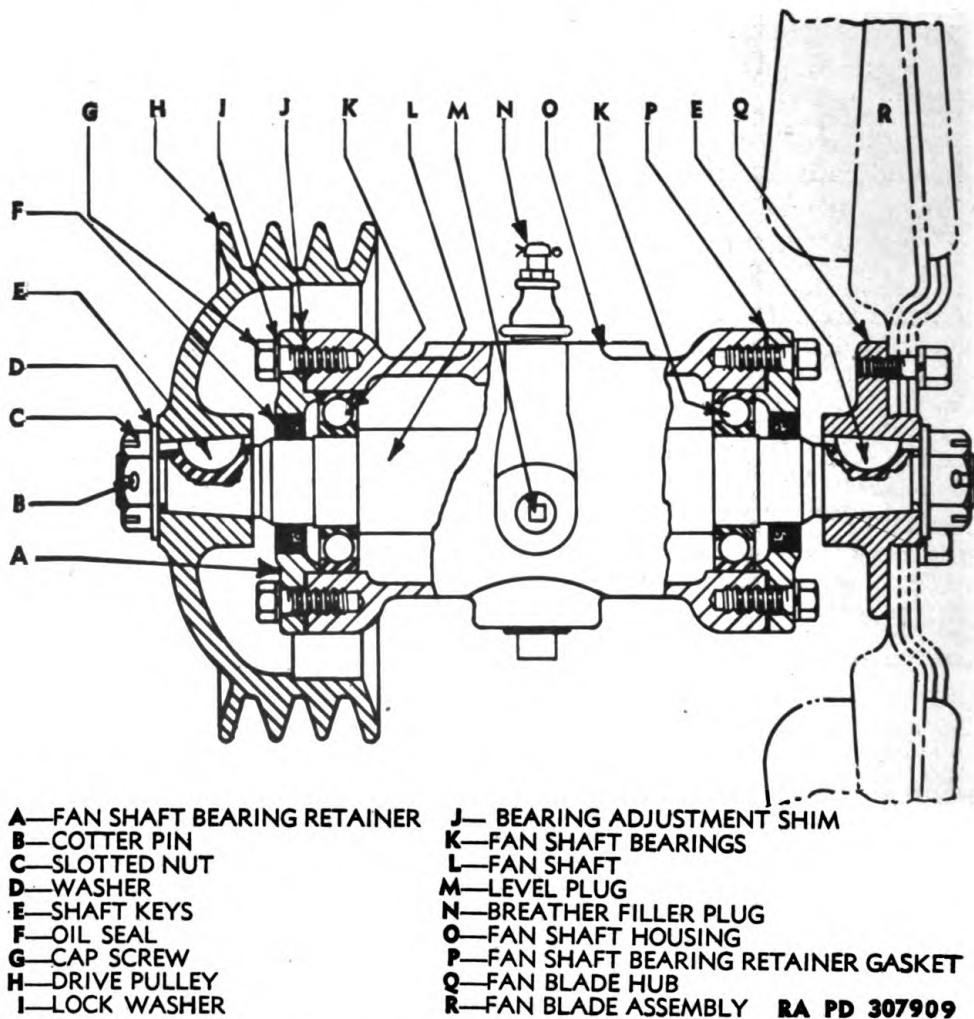

Figure 102 — Fan Assembly — Cross Section
b. Disassembly of Fan Assembly (fig. 102).
d. **Assembly of Fan Assembly.** Refer to figures 102 and 103 for identification of parts.